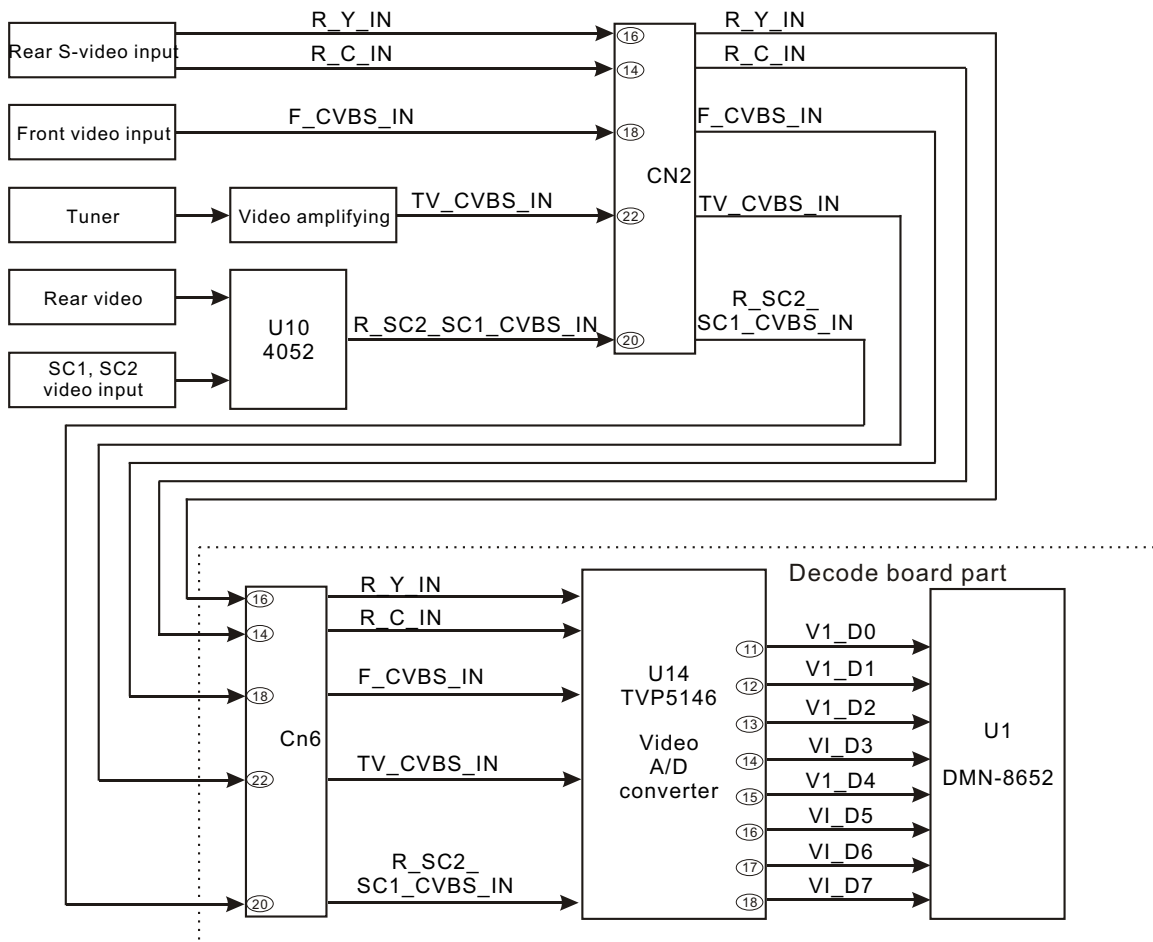

Figure 3.2.5.1 Video input flow chart
1. Video input flow chart is shown in the figure 3.2.5.1: